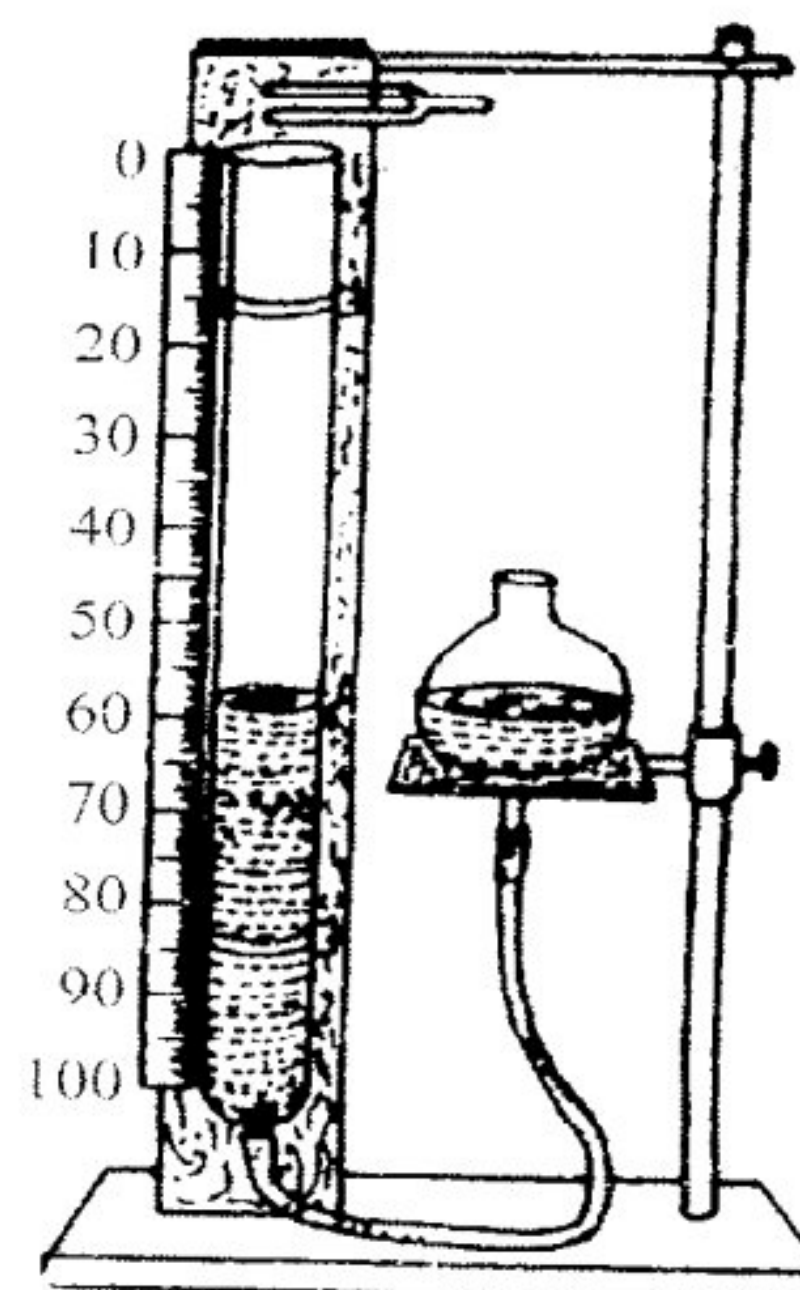

Fig 7.2 The resonance tube apparatus
- (iii) The resonance tube apparatus is shown in Fig. 7.2. Set it in vertical position with the help of levelling screws attached to its base and spirit level. Fill the reservoir with water and raise it to